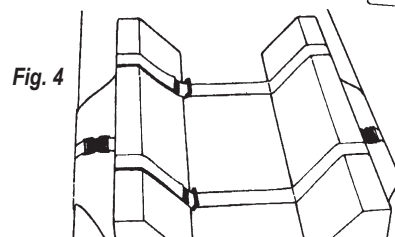

Fig. 4
- For sleeping comfort, cover the straps that cross the bed with a folded sheet, synthetic sheepskin pad, or Skil-Care's TLC Pad. The TLC Pad, described on the reverse side, is an absorbent pad that has handles on its four corners that make turning and the positioning residents easy and reduce the likelihood of caregiver back injury. (Fig. 4)